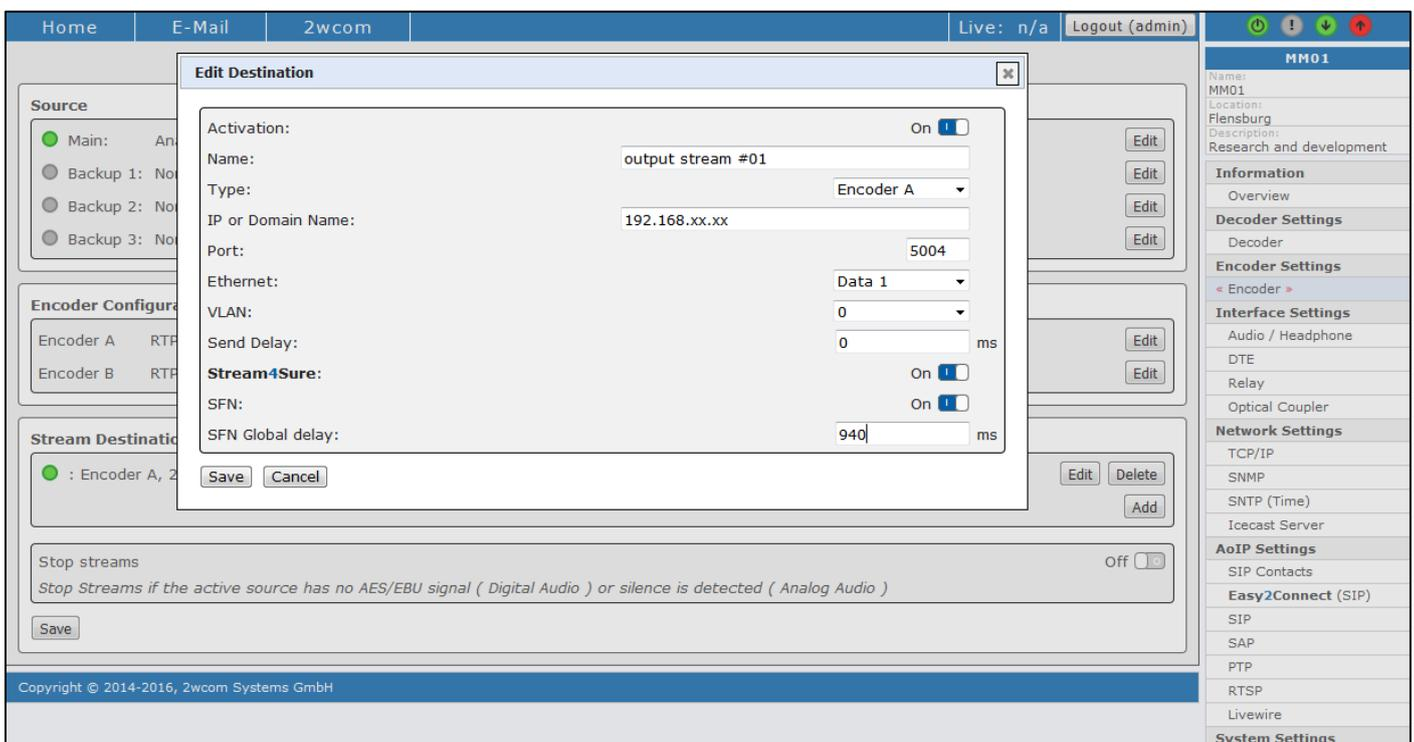

Figure 25: Encoder settings – Edit Destination
3. Click the **Edit** button to configure the output streams. The page *Edit Destination* appears (see Figure 25).